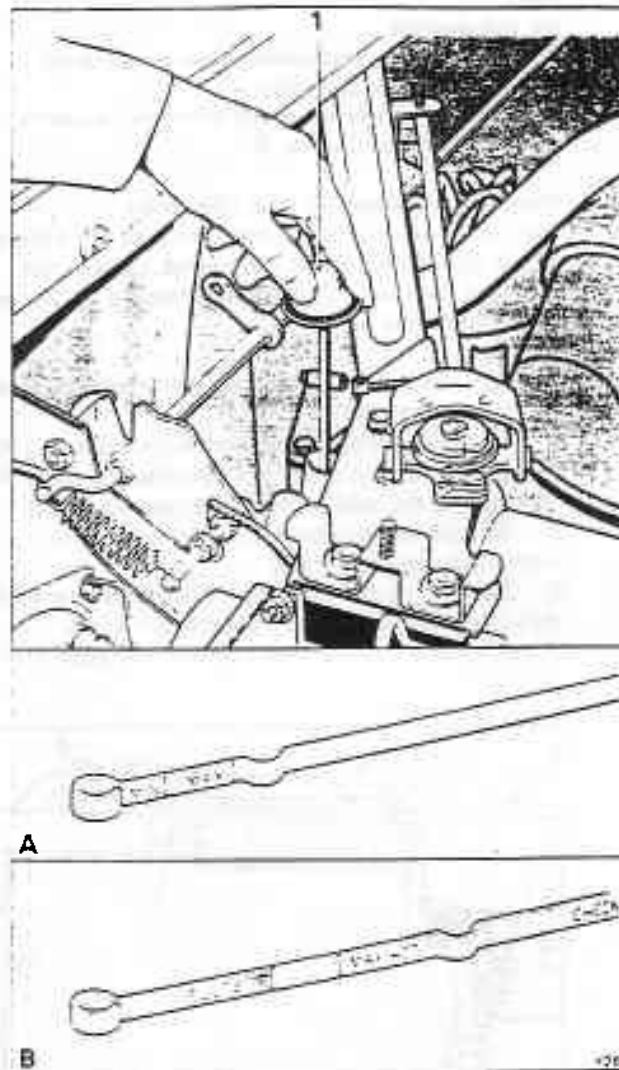

Fig. T2-1 Checking the oil level
5. Immediately, check the fluid level with the engine at the idle speed. The level should be up to the dimple on the the dipstick (see fig. T2-1, B), or approximately 10 mm (0.375 in) below the MIN mark (see fig. T2-1, A), depending upon which type of dipstick is fitted.
11. Immediately, check the fluid level with the engine at the idle speed. The level should be between the FILL and MAX HOT marks (see fig. T2-1, B), or between the MIN and MAX marks (see fig. T2-1, A), depending upon which type of dipstick is fitted.
The transmission dipstick and filler tube are situated on the right-hand side of the engine, close to the bulkhead. The word GEARBOX is marked on the top of the dipstick (see fig. T2-1).
19. Immediately, check the fluid level with the engine at the idle speed. Add fluid as necessary to bring the level to the dimple (see fig. T2-1, B), or approximately 10 mm (0.375 in) below the MIN mark (see fig. T2-1, A), depending upon which type of dipstick is fitted.
5. Immediately, check the fluid level with the engine at the idle speed. Add fluid as necessary to bring the level to the dimple (see fig. T2-1, B), or approximately 10 mm (0.375 in) below the MIN mark (see fig. T2-1.A), depending upon which type of dipstick is fitted.